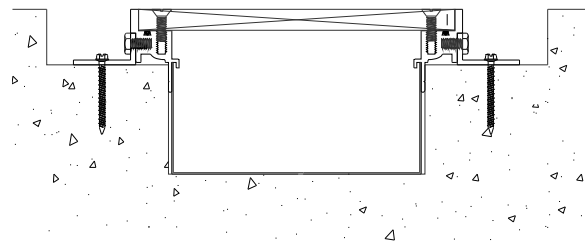

Figure 6
STEP 8. Place a temporary wooden cover (plywood is recommended) into the frame, attaching it to the frame as shown in Figure 6. This procedure is recommended to protect the cover plate from concrete splatter during the pouring and finishing of the concrete.